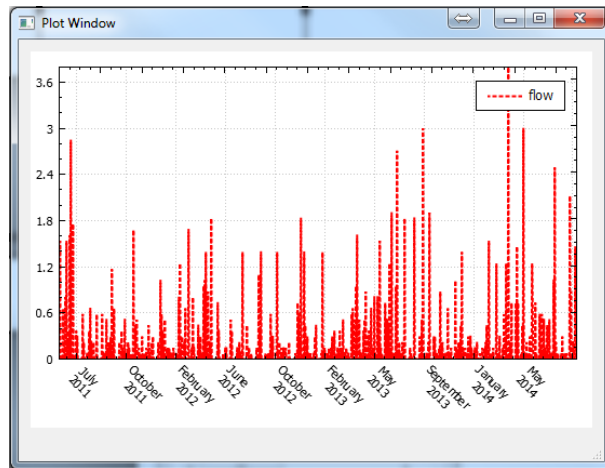

Figure 4.17: Precipitation time series for the build-up example
- Right-click on the box where the name of the precipitation input file is written and click on **flow** from the drop-down menu. A graph similar to what is shown in Fig 4.17 will pop-up.